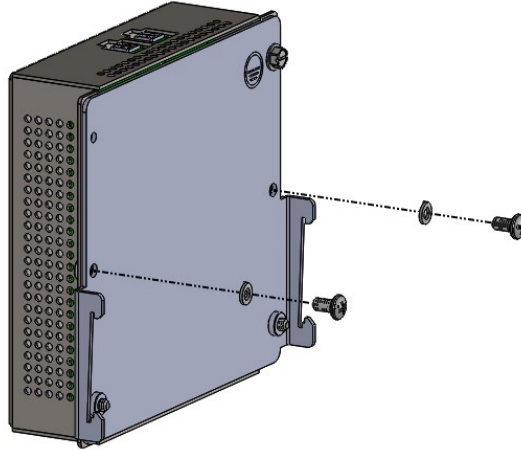

Figure 5. Installing bracket with mounting screws
1. Insert the Phillips head mounting screws with the lock washers to the middle holes of the bracket and to the bulkhead nuts, shown in Figure 5.